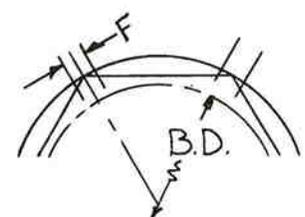

Figure No. 2
STEP No. 4: Lay off 1/2 (F) on each side of the pitch points on the pitch circle. (See Figure No. 2.)